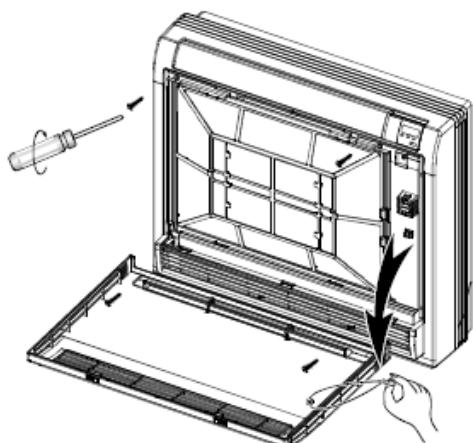

Fig.7-2
- Remove the string.(Refer to Fig.7-2)
- Remove the four screws.(Refer to Fig.7-2)